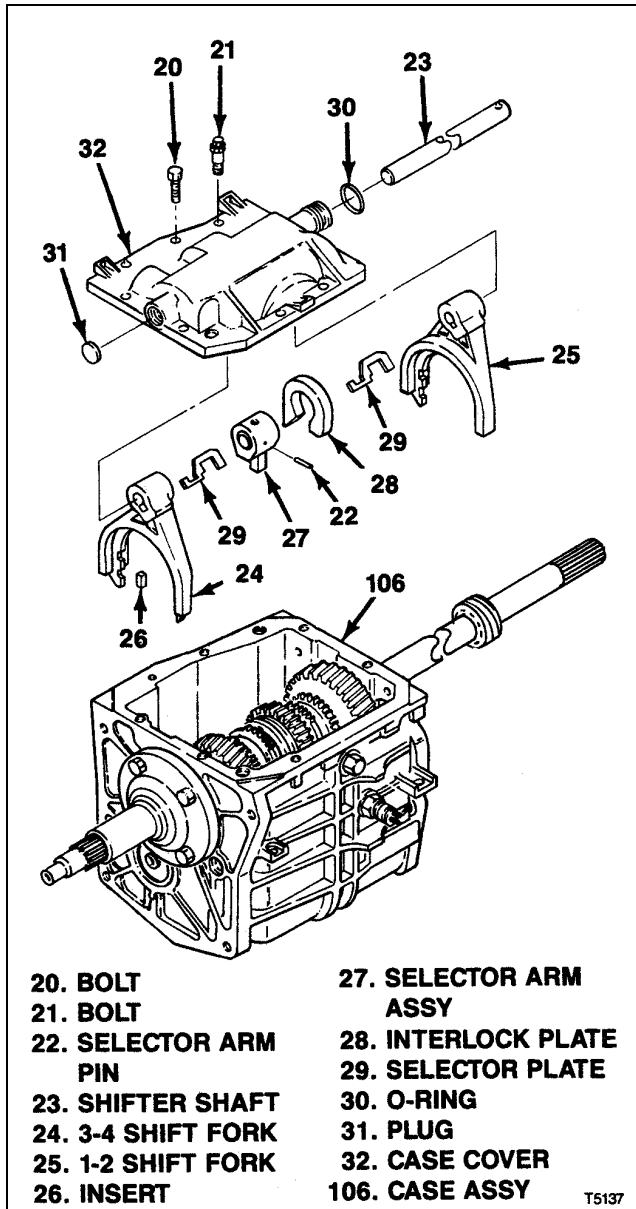

Figure 7-15. T5 STD Case Cover
**7-17. ASSEMBLY AND INSTALLATION OF T5 STD SHIFT FORKS AND CASE COVER.** With case cover on work bench, open face up, assemble shift forks. Then, install on transmission. Proceed as follows (see figure 7-15):